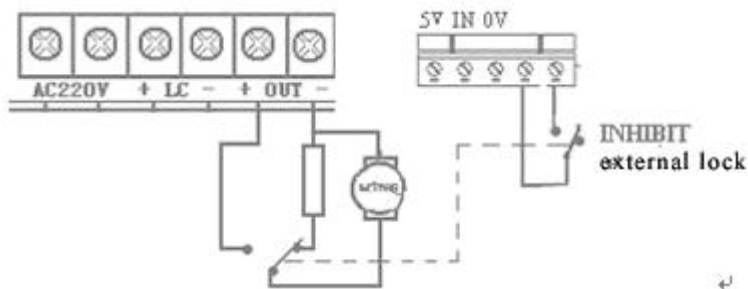

Figure 9
3. Rapid braking (dynamic braking) of the connection: Figure 9